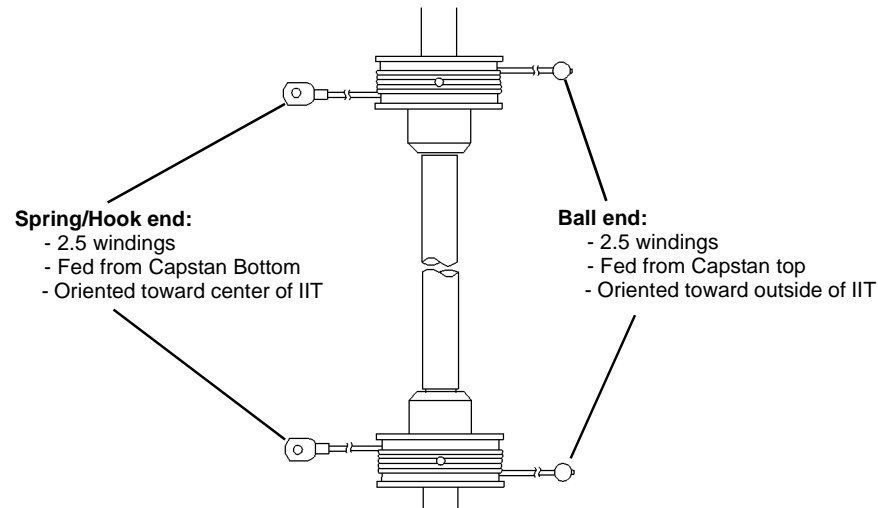

Figure 7 Carriage Cable Orientation
- d. Check orientation of the ends and number of carriage cable windings (Figure 7). Reconfigure as required.